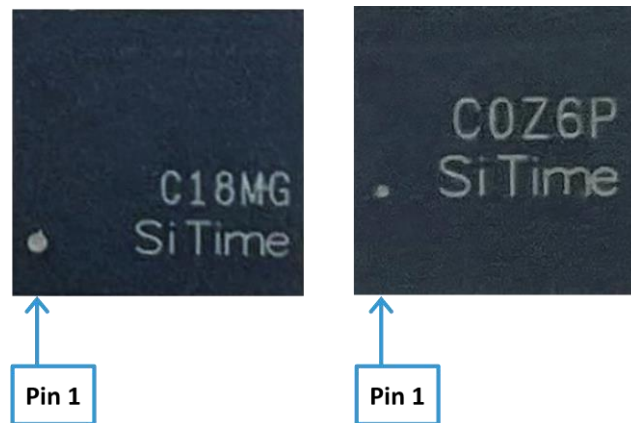

Figure 2. Location of pin 1 on two SiT9514x variants
- Pin 1 on an SiT9514x unit is indicated by a light-colored dot (see Figure 2).